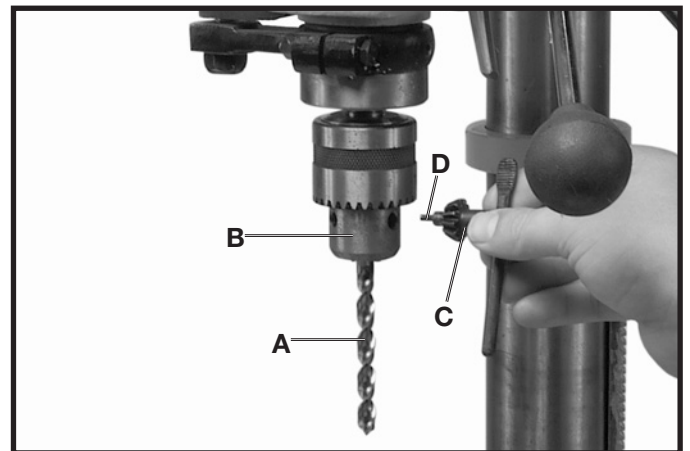

Fig. 29
1. Insert smooth end of drill bit (A) Fig. 29, into chuck (B), as far as it will go, and then back the bit out 1/16", or up to the flutes for small bits.
2. Make certain that the drill bit (A) Fig. 29, is centered in the chuck (B) before tightening the chuck with the key (C).
3. Turn the chuck key (C) Fig. 29, clockwise to tighten and counterclockwise to loosen the chuck jaws.
5. **⚠ CAUTION** MAKE SURE chuck key (C) Fig. 29, is removed from chuck before starting drill press. Your chuck key (C) is equipped with a self-ejecting pin (D) which helps minimize the hazard of the key being left in the chuck.